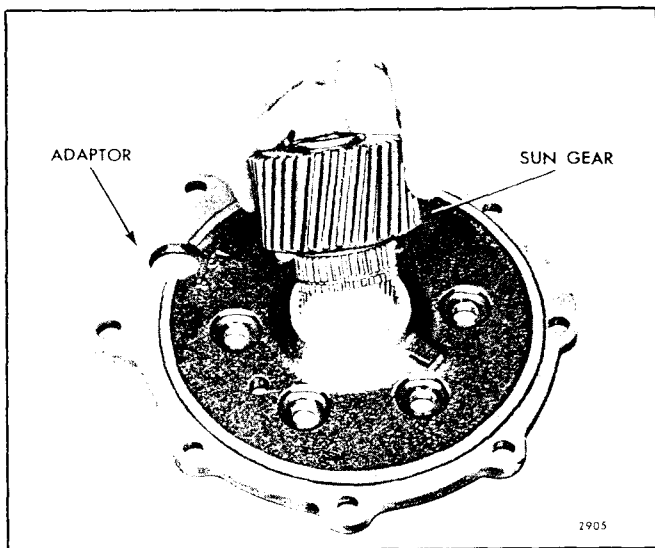

Fig. 101 - Installing Sun Gear in Reduction Gear Adaptor (2.1:1 Ratio)
- b. Insert the splined end of the sun gear straight in the hub of the adaptor as shown in Fig. 101 until it seats against the shoulder of the adaptor.